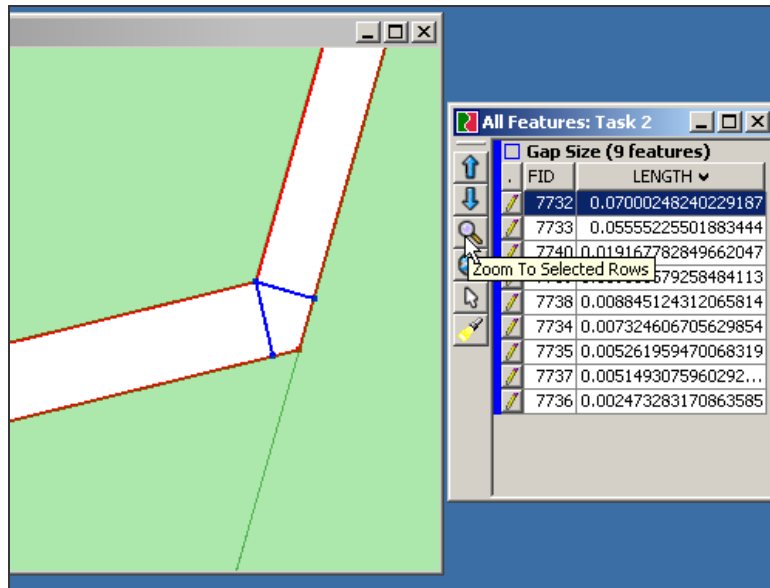

Figure 10 - Zooming to a gap using the Attribute View Zoom tool
- Use the **Zoom** tool (🔍) or the **Attribute View Zoom** tool as described above to zoom to coverage gaps (see Figure 10 below).